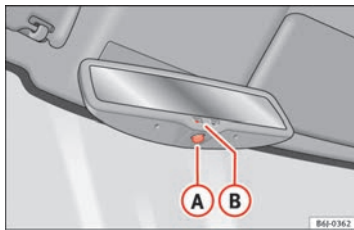

Fig. 73 Automatic anti-dazzle interior rear vision mirror.
- Press button **A** ⇒ Fig. 73. Control lamp **B** goes off.
- Press button **A** ⇒ Fig. 73. Indicator lamp **B** turns on.